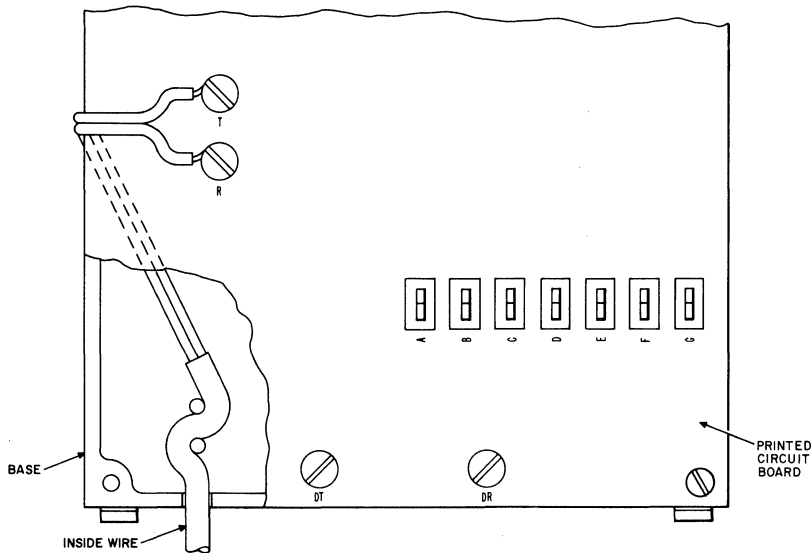

Fig. 3—Route of Station Wiring and Location of Terminals
- (1) Remove the tape securing the cover to the base pan. Retain the screw envelope that is secured under the tape.
- (2) Remove the snap-off cover assembly from the coupler and lift up the circuit board from the base pan.
- (3) Position the base pan vertically against the wall with the keyhole slot end up and at least 3 inches above the top of the baseboard or other obstruction which will be below the unit. Secure the base with two screws.
- (4) Route the inside wiring through the slots and pins on the base as shown in Fig. 3. Attach the circuit pack to the base using the four screws provided. Connect the two leads to terminals T and R on the printed wiring board.
3.08 When a tel set is associated with the coupler, the exclusion key leads in the set must be rewired to provide the necessary control functions of the data key. Typical wiring diagrams in Fig. 4, 5, and 6, show rewiring and connections required when using the 502A/B, 503C, or 558F tel set. The rewiring permits the tel set to control the line. Location of the terminals on the coupler is shown in Fig. 3.
3.13 The locations of the level option terminals are shown in Fig. 3. Cut a piece of insulated, 24-gauge, solid wire to fit between appropriate